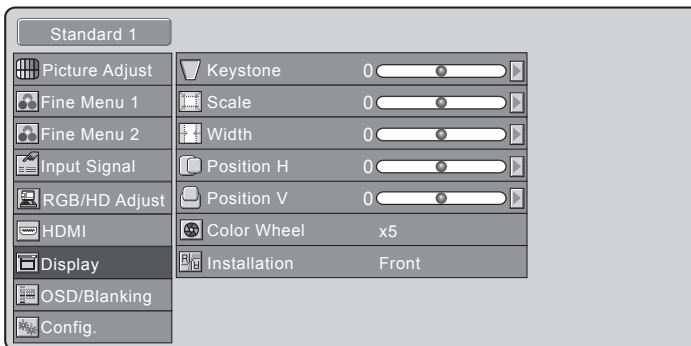

Figure 17
4. Press the Navigation ►RIGHT Push-button plus the ▲UP or ▼DOWN Push-button select the correct orientation of the projector relative to the screen. Refer to figure 17.
2. Using the Navigation ▲UP or ▼DOWN Push-button, select DISPLAY from the Main Menu choices. Refer to figure 17.